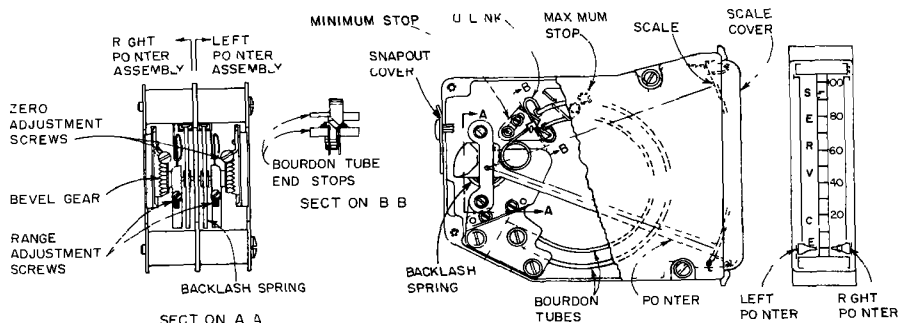

FIGURE 8 - Vertical Gage Unit Adjustments
pointer does not read correctly, turn zero adjustment screw (Figure 8) until desired reading is obtained.
- b. Apply pressure to gage equivalent to first major scale division below 100% scale. If pointer does not read correctly, turn range adjustment screw (Figure 8) until desired reading is obtained.
- (1) If midscale pointer reading is low, spread link slightly
- (2) If midscale pointer reading is high, close link slightly